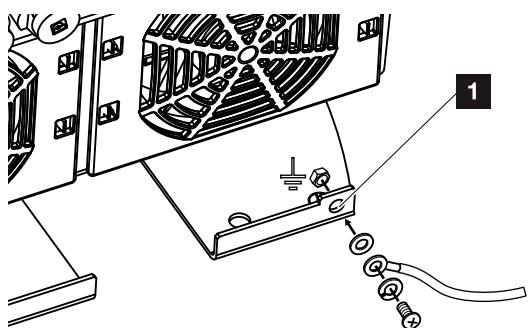

Fig. 23: Country-specific PE connection, outside
- 11.** In countries in which a second PE connection is prescribed, connect this at the marked place on the housing (outside).  **Fig. 23, It. 1**